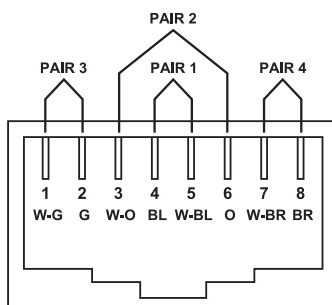
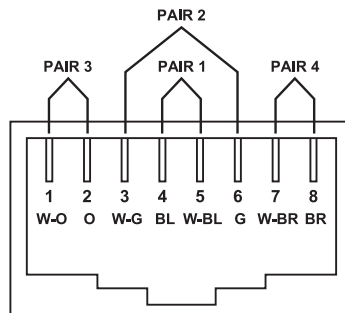

FIGURE B-2. T568A WIRING
FIGURE B-3. T568B WIRING
RJ-45: The Registered Jack (RJ) physical interface is what connects the network cabling (CAT6a/7) to the local unit and the remote unit. You may use either the T568A scheme (see Table B-1 and Figure B-2) or the T568B scheme (see Table B-2 and Figure B-3) for cable termination. RJ-45 connectors are sometimes also referred to as 8P8C connectors.